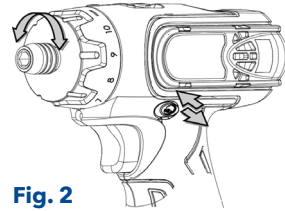

Fig. 2
3. For reversing the machine, (View Fig.2) use the forward/ reverse rod on the drive unit. The directions of the rotation are also shown on the face of the bar.